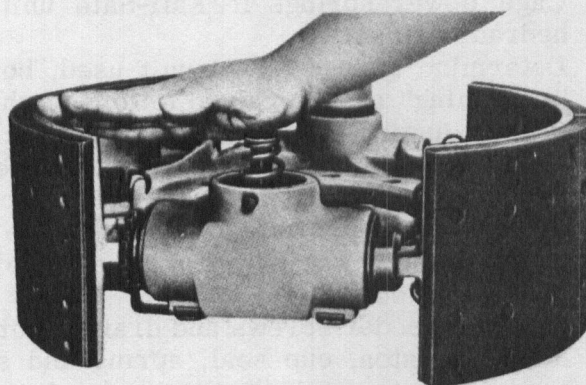

Fig. 15
6. Install wedge assembly into housing. Check for correct roller and plunger engagement by pushing on the wedge rod while watching for plunger and shoe lift (Fig. 15). If no plunger or shoe lift is observed, the wedge assembly is crossed. Reinstall and repeat check.